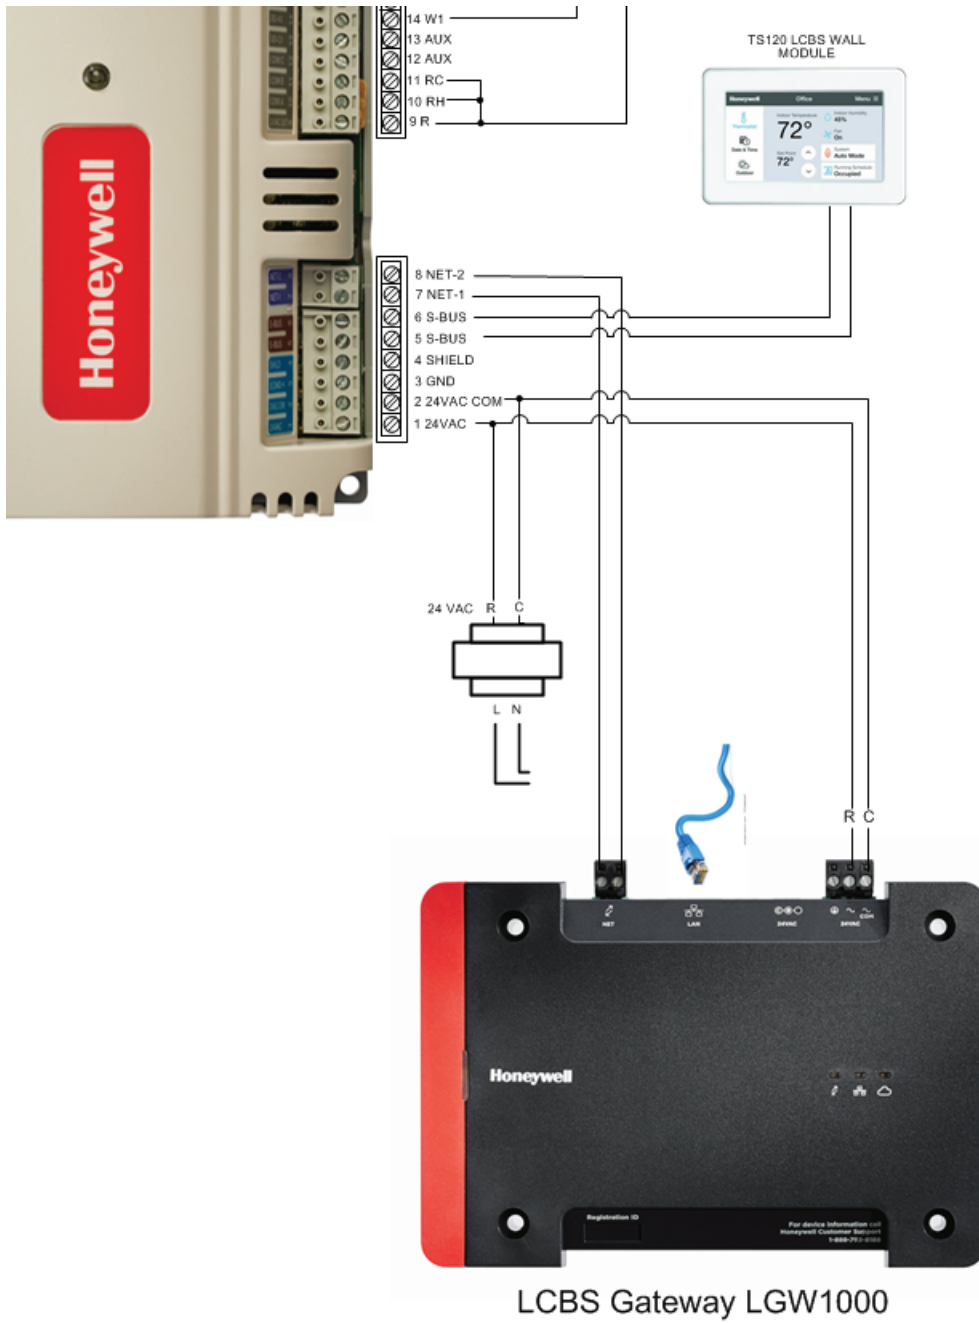

Fig. 4. LCBS with Gateway
- b. See LCBS and Gateway installation instructions and Fig. 4.